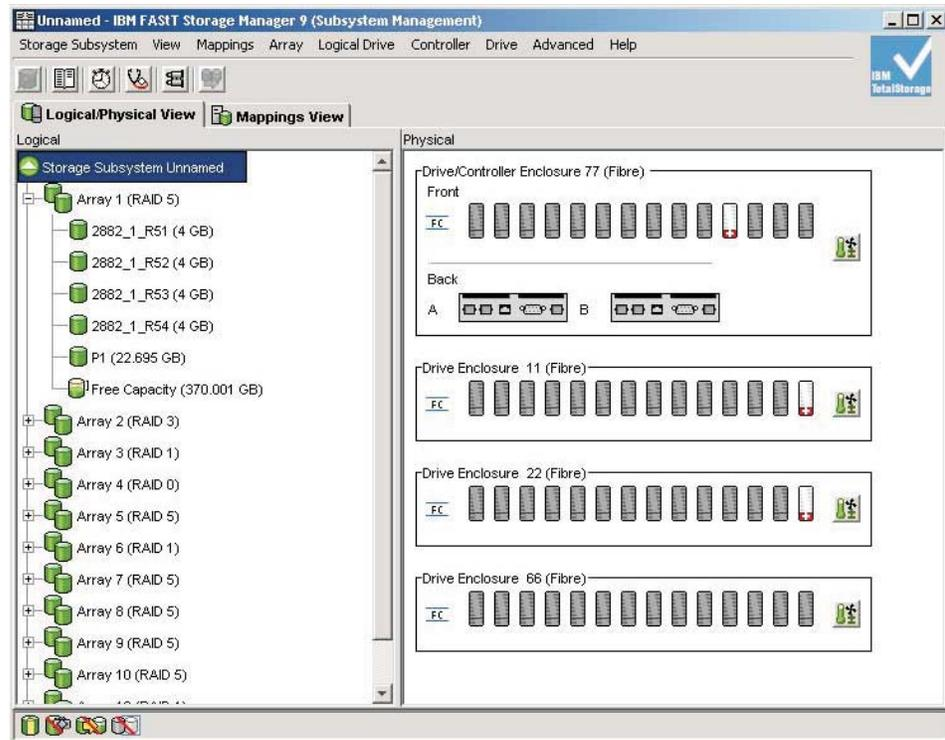

Figure 24. Subsystem Management window
2. Click **Tools** → **Manage Device**. The Subsystem Management window opens, as shown in Figure 24 on page 113.